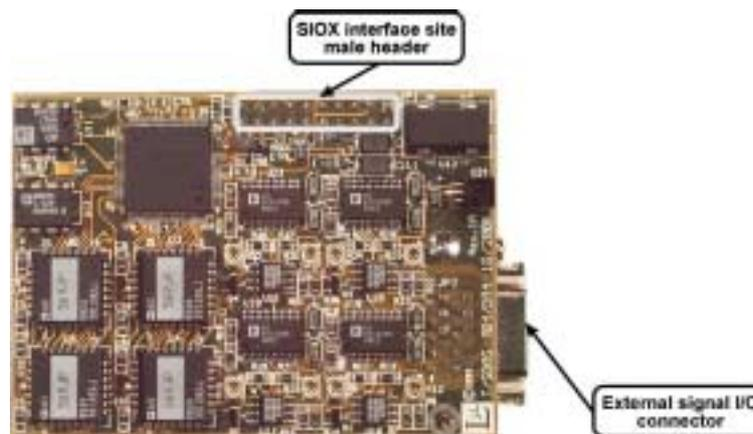

Fig. 1-1. *T/SDAS-ADDA4/16Q/200K* DCM.
*T/SDAS-ADDA4/16Q/200K* (fig.1-1) is quad-channel AD/DA SIOX (serial I/O expansion) DCM for *TORNADO* DSP systems (*TORNADO-3x/54x/6x/P6x/P33/etc*), *TORNADO-E/EL* stand-alone DSP controllers (*TORNADO-E3x/E54x/E6x/etc*) and *TORNADO-PX/SX* DSP coprocessors (*TORNADO-PX31DP/SX30/etc*) from MicroLAB Systems Ltd.